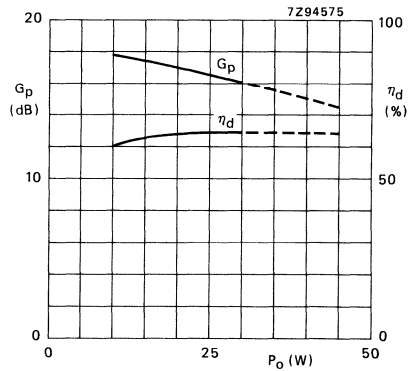

Fig. 4 Power gain and drain efficiency versus output power.
- the device can be applied at rated load power without an external heatsink when it is mounted on a printed circuit board (see Fig. 4).
* Device mounted on a printed circuit board (see Fig. 4).